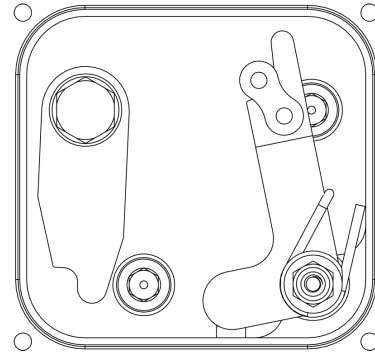

Figure 12 - Final spring leg position.
5. Install and tighten the nut, enough to remove the slack in the assembly. Be careful not to over tighten and damage the threads. Using a pair of plyers, lift the bent end of the spring over the pawl lever into the position shown in Figure 12.